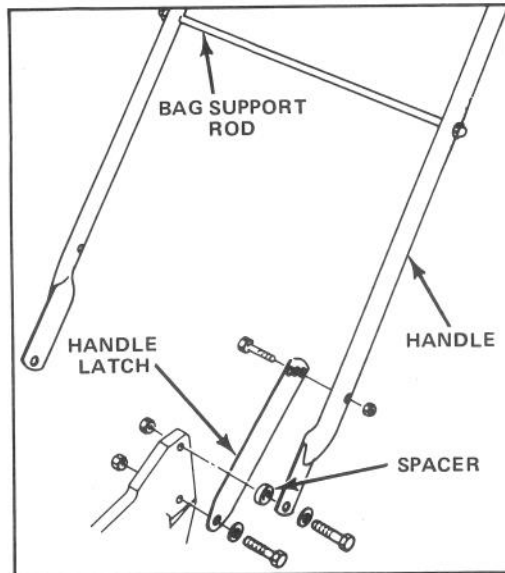

Figure 1
1. Mount handle to outside of mower housing, using top hole, with (2) 5/16-18 x 1-1/2" lg. capscrews, washers, spacers and nylon insert locknuts as shown in Fig. 1.
2. Mount handle latches to outside of mower housing, using bottom hole, with (2) 5/16-18 x 1-1/4" lg. capscrews, washers and locknuts as shown in Fig. 1.
3. Secure handle latches to handle with (2) 5/16-18 x 1-1/2" lg. capscrews and nylon insert locknuts (Fig. 1). Position locknuts on outside of handle.
4. Slide bag support rod thru **top** mounting holes in handle and secure each end with (2) cap locknuts (Fig. 1).